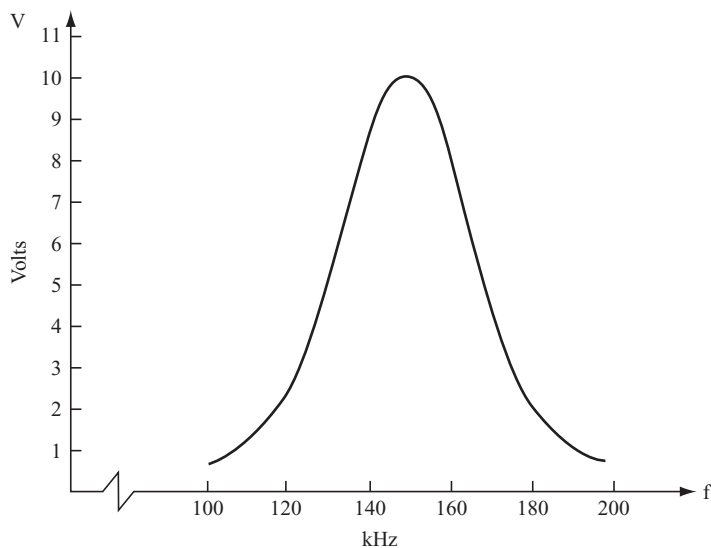

FIGURE 7.47
16. Use the output curve shown in Figure 7.47 to answer the following questions.